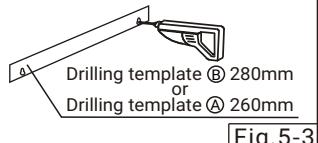

Fig. 5-3
And the centre line of drilling template⑧ must correspond to the centre line of hood on the wall. Then, drill holes on each side.(Fig.5-3)
And the centre line of drilling template⑨ must correspond to the centre line of hood on the wall. Then, drill holes on each side.(Fig.5-3)
- (b) Please cut off the paper of drilling templateⒶ and adhere it on line "B". And the centre line of drilling templateⒶ must correspond to the centre line of hood on the wall. Then, drill holes on each side.(Fig.5-3)